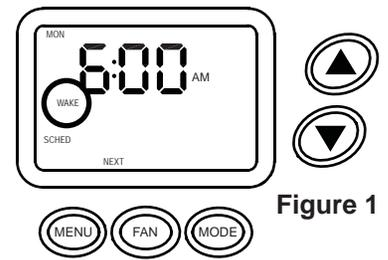

Figure 1
- 2. **PRESS** the FAN button to continue. Wake is the current programmable event. The display will appear as shown (Figure 1).